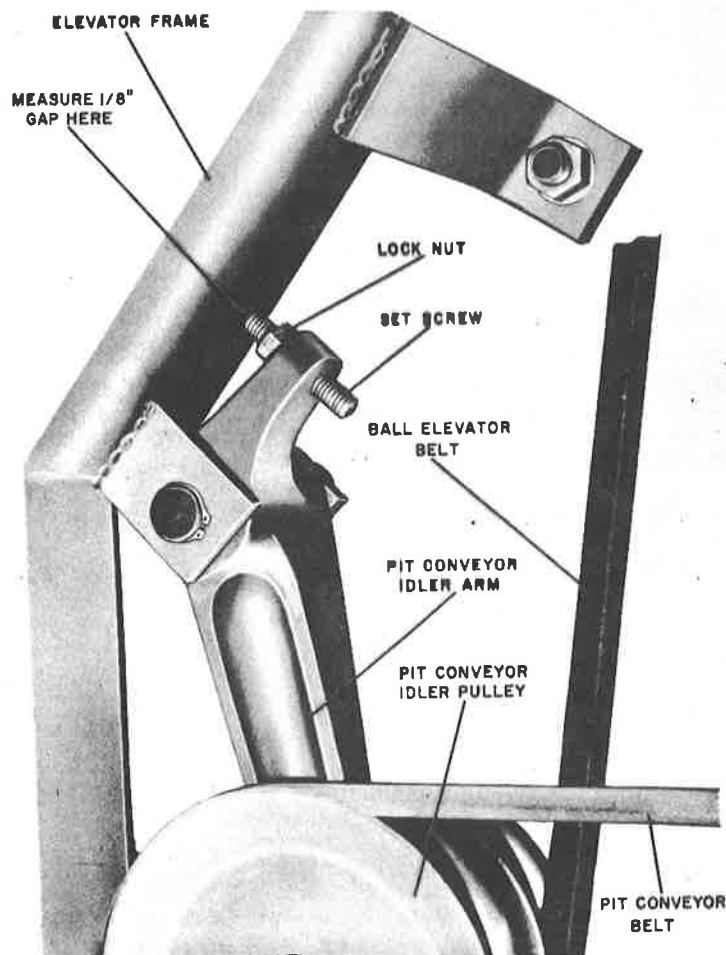

Figure 84. Pit Conveyor Idler Arm Adjustment
29. PIT CONVEYOR IDLER ARM ADJUSTMENT. (FIGURE 84)